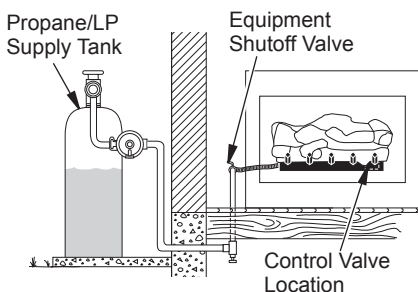

Figure 16 - Checking Gas Joints (Propane/LP Only)
3. Check all joints from gas meter to equipment shutoff valve for natural gas or propane/LP supply to equipment shutoff valve for propane/LP (see Figure 16 or 17). Apply noncorrosive leak detection fluid to all joints. Bubbles forming show a leak.
4. Check all joints from equipment shutoff valve to gas valve (see Figure 16 or 17). Apply noncorrosive leak detection fluid to all joints. Bubbles forming show a leak.